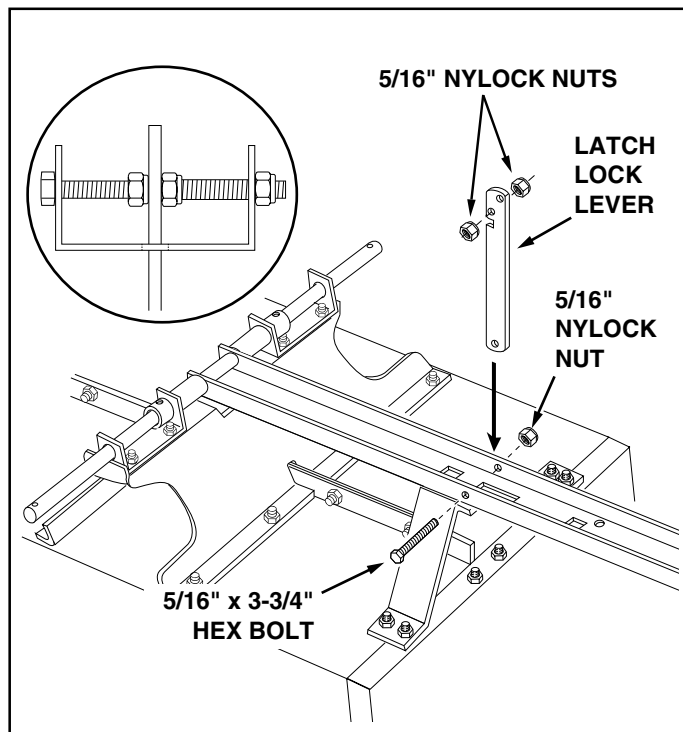

FIGURE 10
16. Place the tongue, open side facing up, onto the wheel support and the latch stand bracket. See figure 10.
18. Place the latch lock lever through the slot in the tongue as shown in figure 10. Assemble the 5/16" x 3-3/4" hex bolt through the tongue, the lever and two 5/16" nylock nuts (one on each side of the lever). Assemble a 5/16" nylock nut onto the end of the bolt so that the bolt has no end play, but can rotate freely. **Tighten** the two 5/16" nylock nuts against the sides of the latch lock lever so that the lever is centered in the slot. See figure 10.